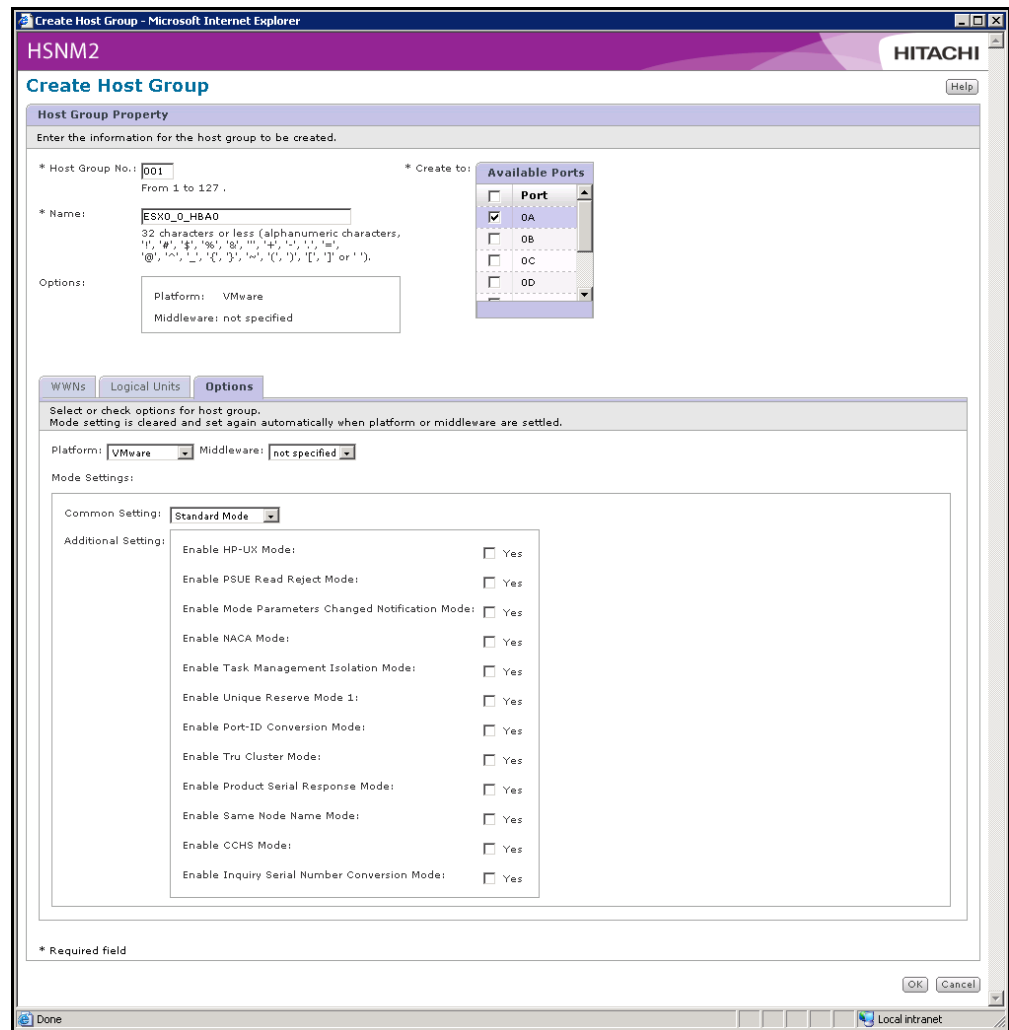

Figure 4-9: Example of the Options Tab
- Click the **Options** tab. A tab similar to the one in Figure 4-9 appears. The list on the left shows the available (selectable) LUNs that have been created.
- Click the **Platform** drop-down list and select **VMware** (Figure 4-9). Keep **Middleware** set to **not specified**. In addition, for VMware, standard mode settings are used, eliminating the need to check any **Additional Settings**.